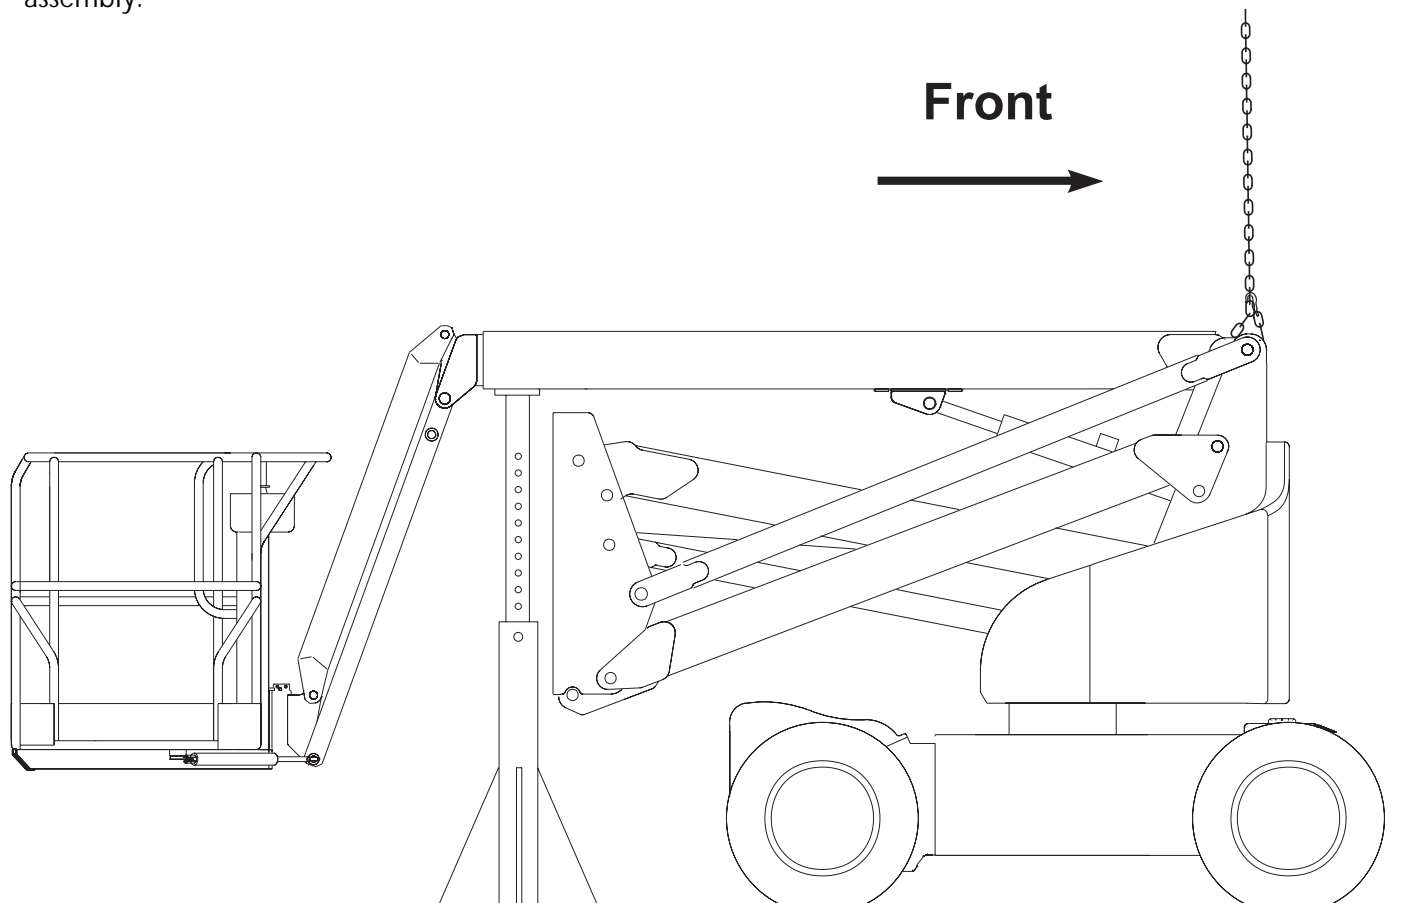

Figure 3-1: Blocking Elevating Assembly
3.2 Blocking Elevating Assembly (Figure 3-1)